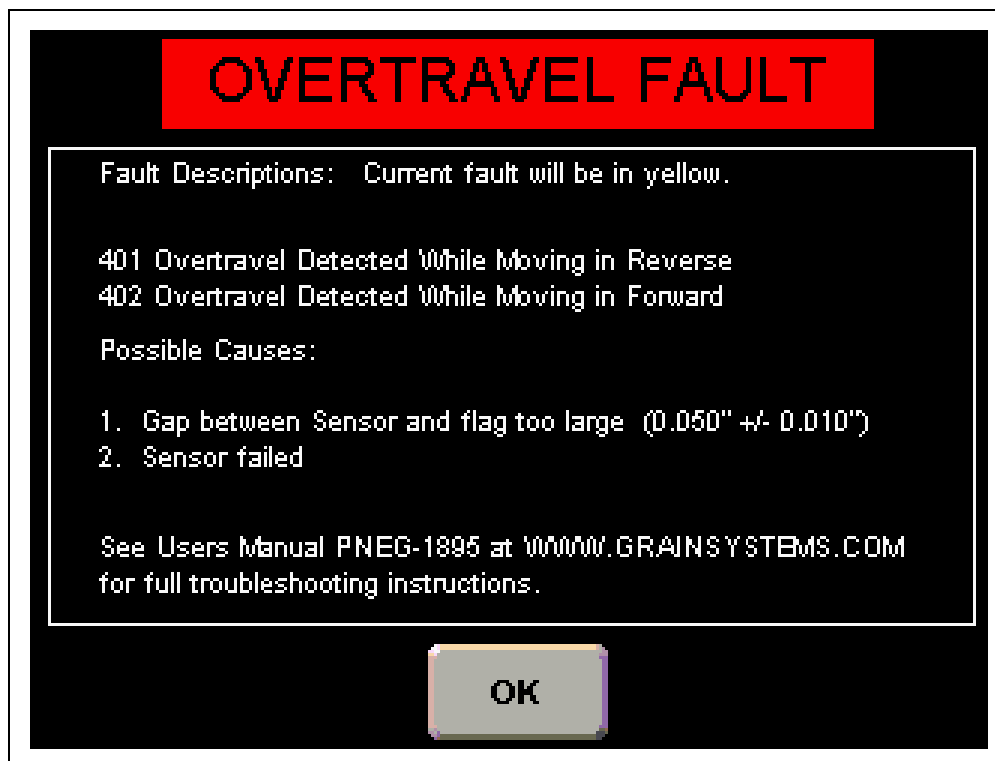

Figure 4X Overtravel Fault Screen
**Overtravel Fault:** Displays the “Overtravel Fault” screen which offers possible causes and solutions to faults caused by the an overtravel condition. (See Figure 4X on Page 36.)